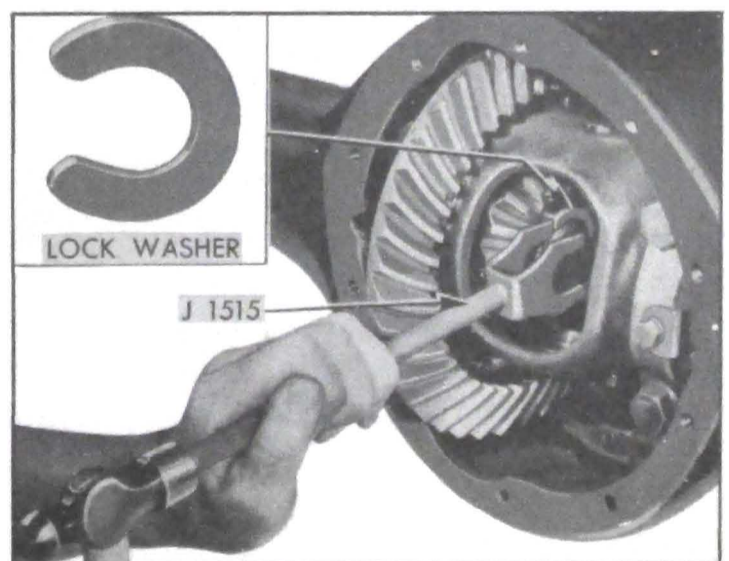

Figure 6-3—Removing Axle Shaft Lock Washer
6. Push axle shaft inward and drive the horseshoe-shaped lock washer from grooved inner end of axle shaft, using Remover J 1515. See figure 6-3.